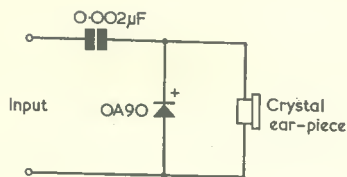

Fig. 2. The demodulator probe used for circuit testing during assembly
(5) R.F./Mixer Section. Connect plain wire links between 2h and 2i, 7i and 7k, 11o and 11p, 13n and 13o. Solder in place C₁, C₂, R₂, C₃, R₁, R₄, TR₁, R₃, C₄. Solder a 34in antenna wire to hole 1p. Connect sleeved links between 1a and 5p, 7n and 8j. Solder TF₂ in place flush on the panel. Solder TF₁ in place, slightly above the surface of the panel. Wire a sleeved link between 14j and 13m, taking care to leave access to hole 14b. *Temporarily* connect a positive battery lead to 8p and a negative lead to 9h; connect a 9 volt battery and check that, with the crystal in place, current is of the order of 2 to 3mA. Make up the demodulation probe as shown in Fig. 2, and *temporarily* connect this between 15i and 12m. Retract the antenna of the SCT/T1 transmitter and place close to the receiver antenna; check that a tone modulation signal is heard in the crystal earpiece when the transmitter is operated. Adjust the cores of L₁ and L₂ for maximum signal. If this test is satisfactory, remove the temporary circuit connections.
(6) First I.F. Amplifier. Solder in place TR₃, R₉, R₈, R₁₀, R₁₁; wire sleeved links between 10k and 9n, 2b and 15n, 17l and 17p, 14l and 23o. Solder in place TF₃, R₁₇ and C₈. Connect a permanent battery positive lead (red) to 21p. This lead is used for the positive battery connection on all subsequent tests and in final use. *Temporarily* connect battery negative to 9h, connect the battery, and check that current is approximately 3.4mA. Connect the demodulator probe *temporarily* between 18b and 15i and check that a tone is heard when the transmitter is operated. If satisfactory, remove the temporary connections.
T_1 is a transformer with a large primary winding which offers a very large inductance with the small current passing through it. It has a step-down ratio of 30:1 so that its secondary matches well to the input of TR_1 , an n.p.n. transistor acting as a power amplifier. VR_3 , a preset control, is adjusted once and for all so that TR_1 passes an emitter current of 25mA. Half the primary of a push-pull output transformer acts as the collector load for TR_1 . A negative feedback loop from output to input of V_1 is provided by R_2 , C_1 , VR_1 , R_3 and C_3 . Because of the resistance in the circuit this loop is effective at audio frequencies only; and since C_3 is comparatively small, it is more effective at the higher audio frequencies. VR_1 acts as a tone control on radio, giving treble cut as the slider is moved towards R_3 , (i.e. clockwise with the wiring layout shown in Fig. 2.) It should be